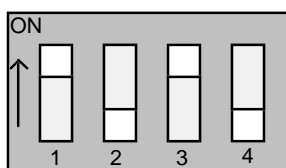

Figure 11 – SW2 Default Selection Settings
3. DIP switch SW2 allows selection of the audio sources feeding the speakers. The switches should be set to the default positions (source = Audio Matrix Board) shown in Figure 11. Table 7 shows the switch settings to select the audio source.